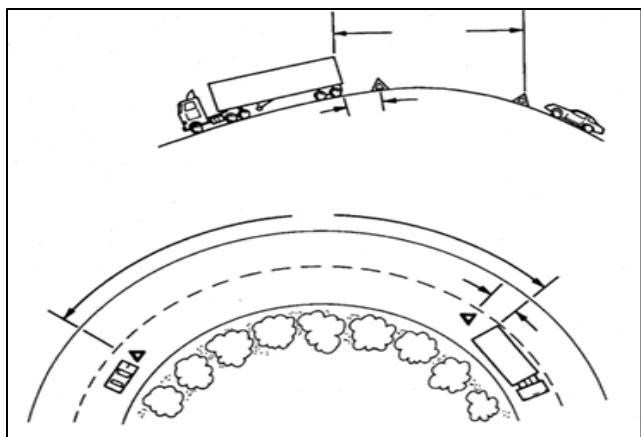

Figure 1-2
- If a hill or curve keeps on-coming drivers from seeing the vehicle within 500 feet, move rear reflective triangle back down the road. (Fig 1-2)